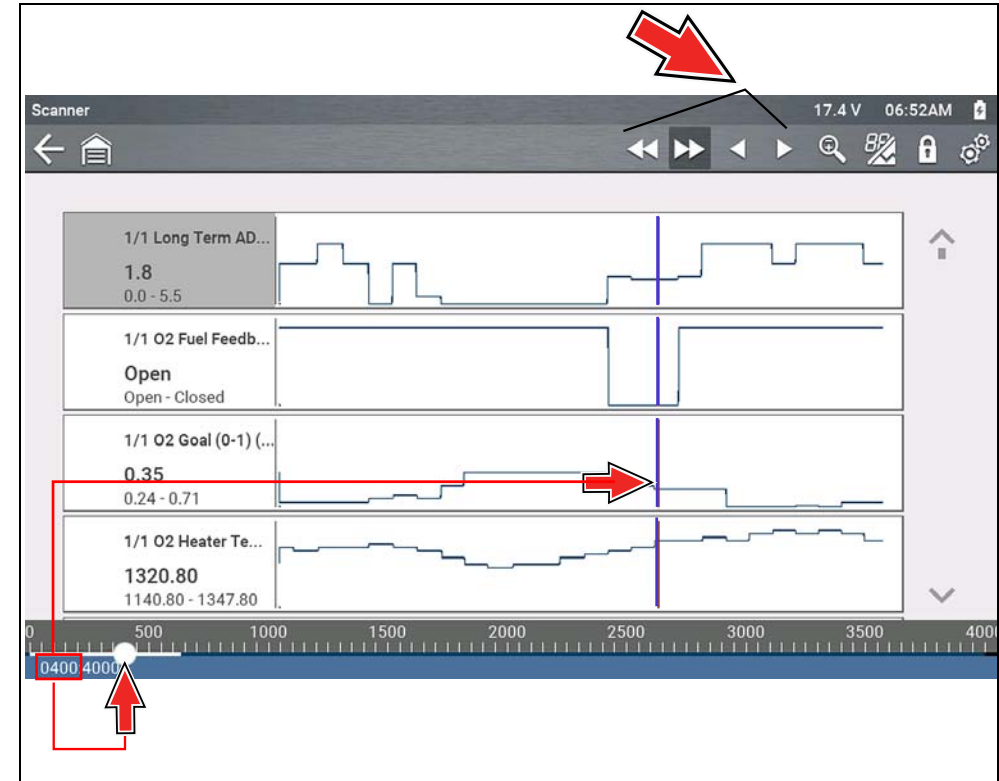

Figure 4-25
3. In graph view, use the control icons to move through the data (Figure 4-25).
The blue (vertical cursor) (Figure 4-25) indicates your position in the data and is denoted by the current position value (Figure 4-25) in the counter display. The cursor displays in all PIDs.